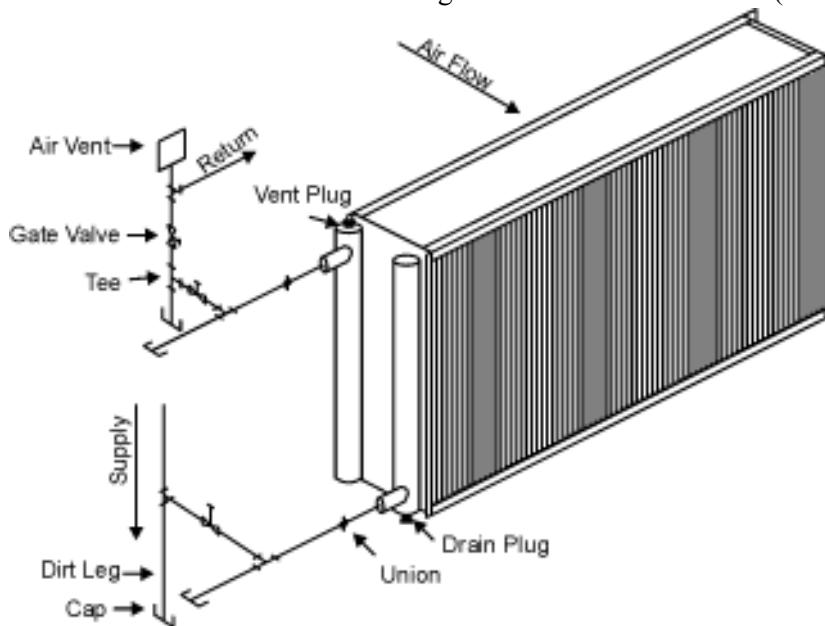
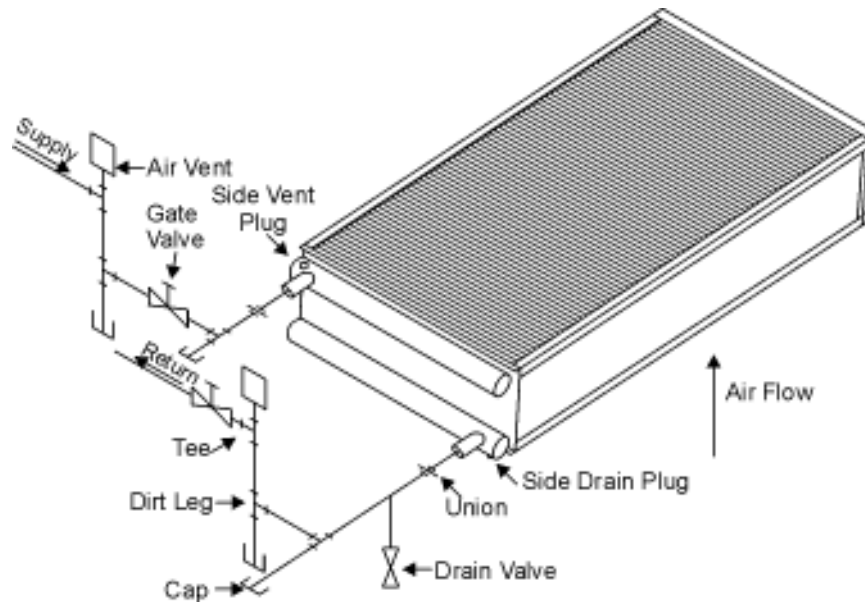

Figure 1 - Horizontal Airflow Diagram
Figure 3 - Vertical Airflow Diagram
10. General piping diagrams can be found in Figure 1 - Horizontal Airflow and Figure 3 - Vertical Airflow.
1. Isolate the coil from the rest of the system by closing the valves on both the supply and return lines (gate valves in Figure 1 - Horizontal Airflow and Figure 3 - Vertical Airflow).
3. Isolate the coil from the rest of the system by closing the valves on both the supply and return lines (gate valves in Figure 1 - Horizontal Airflow and Figure 3 - Vertical Airflow).